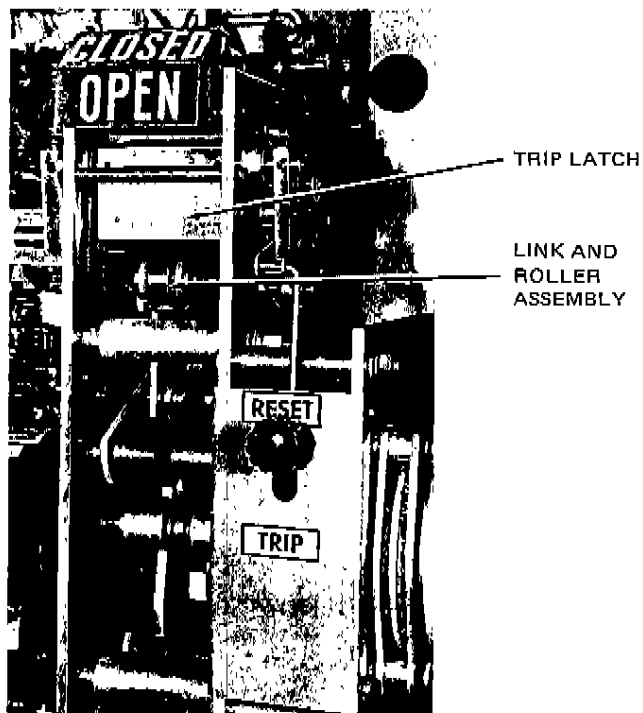

Figure 7
- C. Release the brake by holding the brake release handle to the right and crank the motor counter-clockwise until the trip latch is engaged above the link and roller assembly (Figure 7).